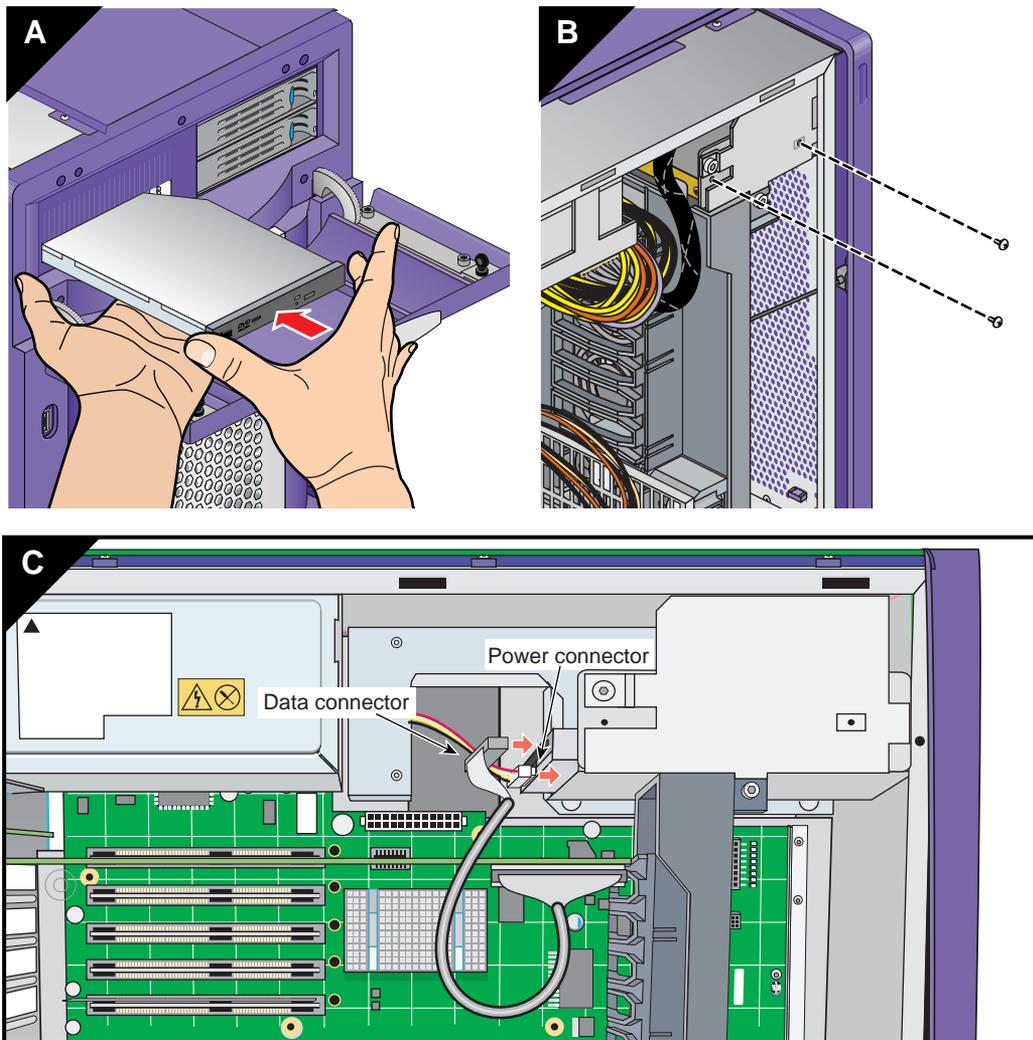

Figure 3-15 Installing the DVD-ROM Drive
3. Connect the IDE cable as follows (see Figure 3-15):
4. Connect the power cable to the rear of the drive (see Figure 3-15).